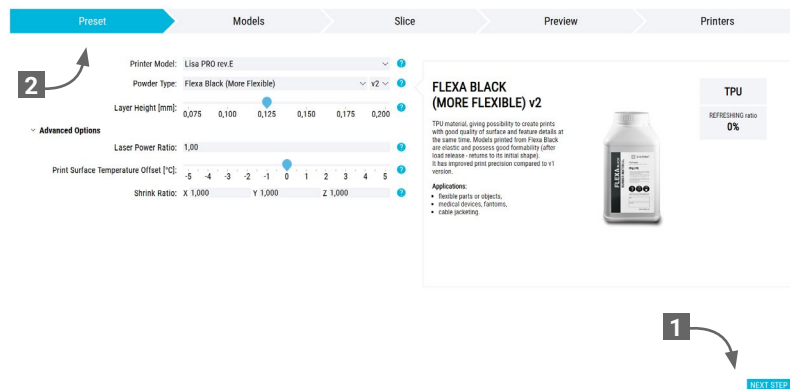

Fig. 2.23 Moving on to the next step.
Move on to the next step by clicking **Next step** (1) in the bottom right corner of the window or **Models** (2) at the top of the dialog. (Fig. 2.23)